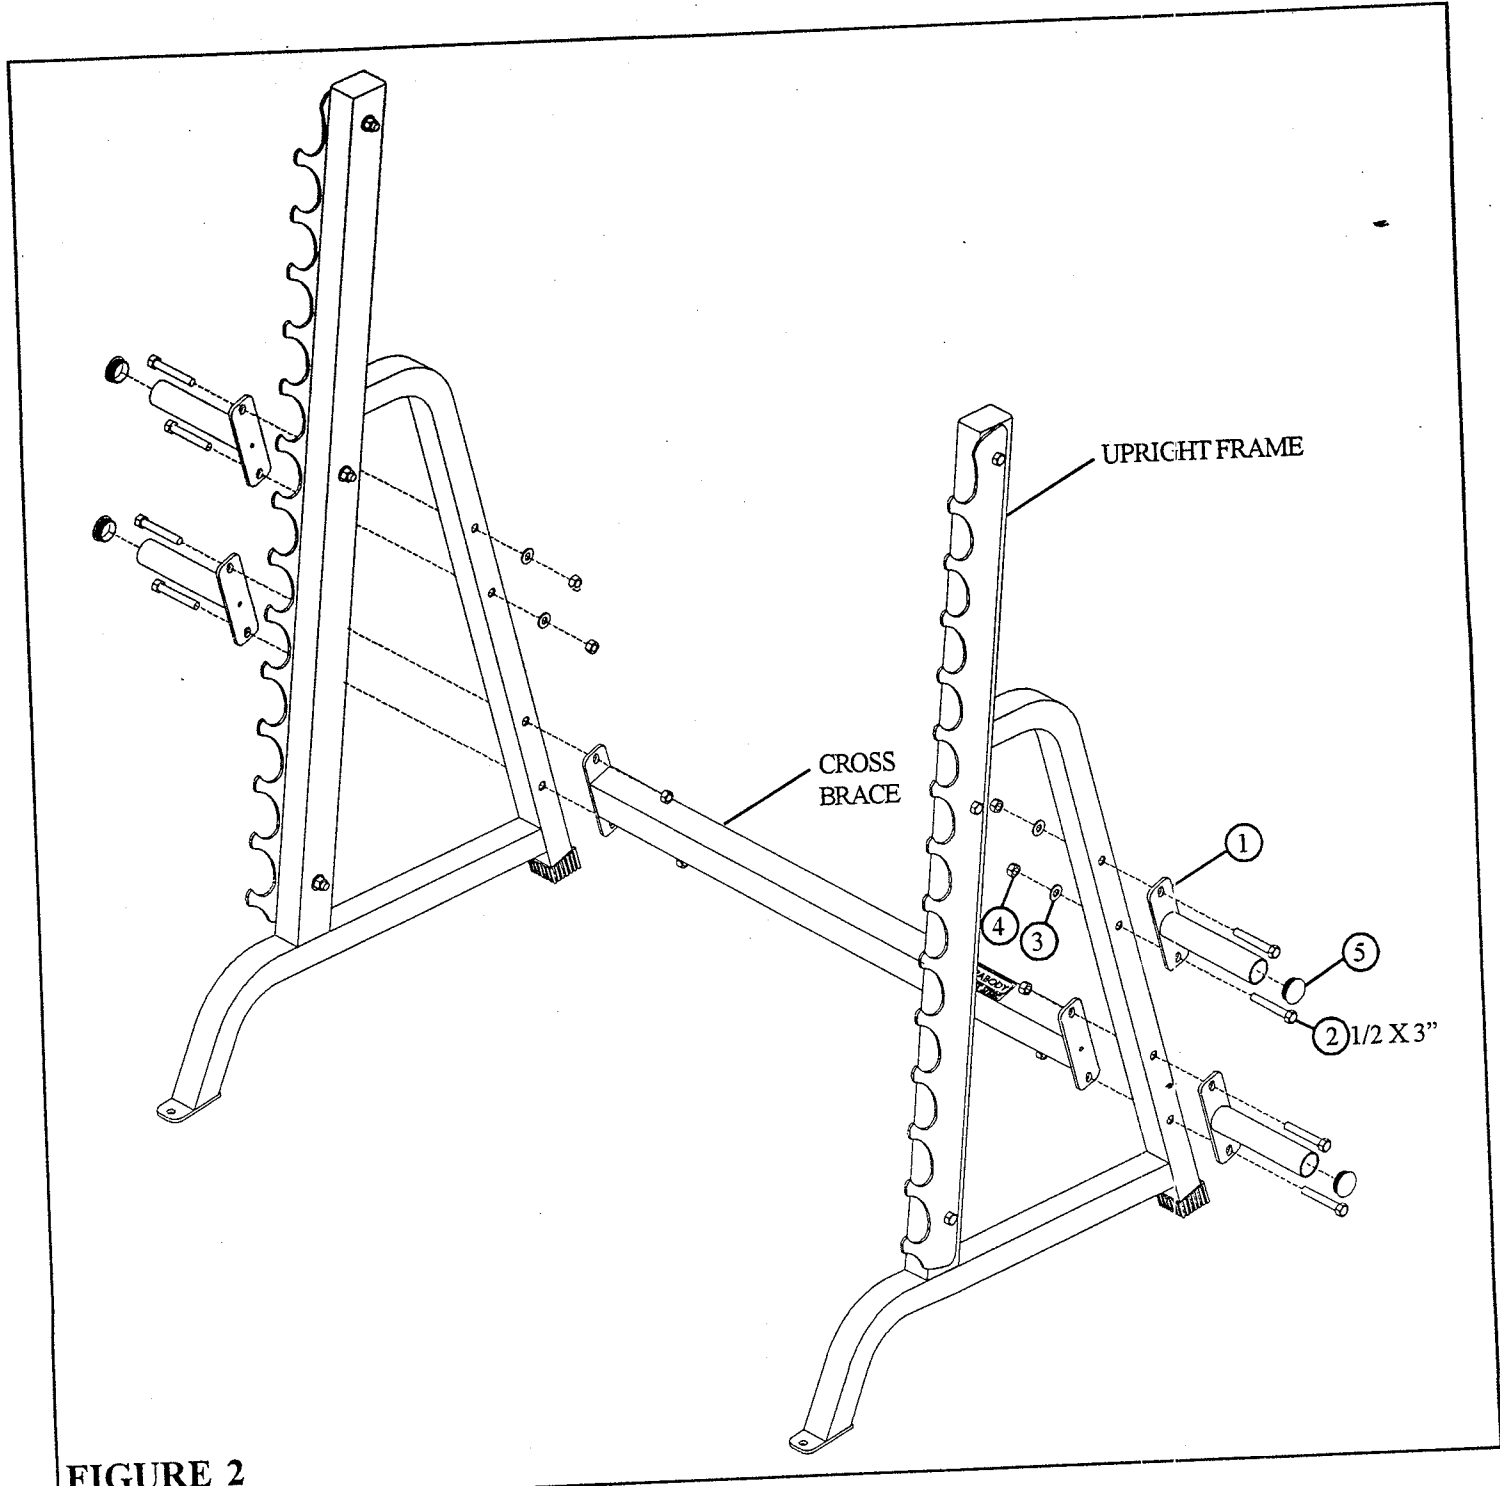

**FIGURE 1**
- Remove and discard the four 1/2 X 3" BOLTS, four 1/2" WASHERS, and four 1/2" LOCK NUTS from the CROSS BRACE as shown in FIGURE 1.